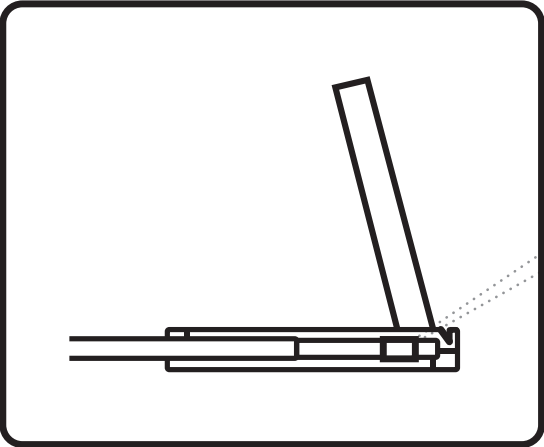

Figure 14.
- A black arrow release button is located on the outside of each slide. (shown in **Figure 14**).